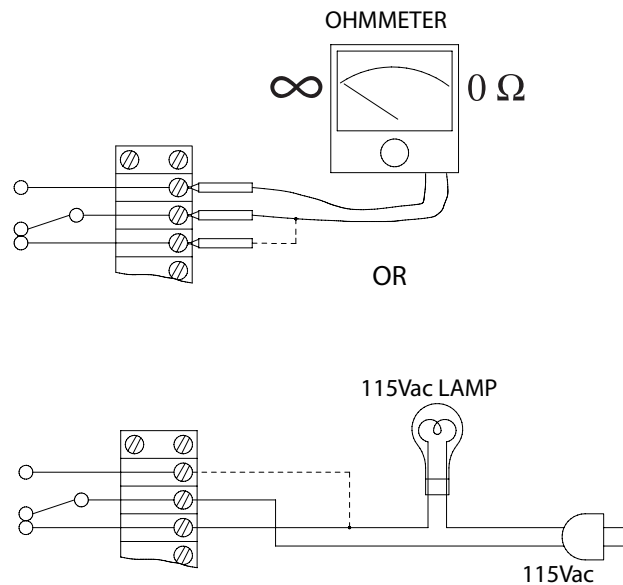

Figure 5-3
2. Connect ohmmeter as shown in Figure 5-3.